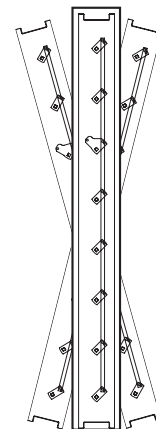

Figure 1
- 1) Dampers ordered with "nominal" sizing are undersized $\frac{1}{4}$ in. (6mm) to facilitate ease of installation. For example, a 12 in. x 12 in. (305mm x 305mm) nominal damper will measure $11\frac{1}{4}$ in. x $11\frac{1}{4}$ in. Dampers ordered with "actual" sizing are not undersized. The duct or barrier opening that the damper is being mounted in should be $\frac{1}{4}$ in. (6mm) larger than the damper dimensions in both width and height. The opening should also be straight and level (**Figure 1**).